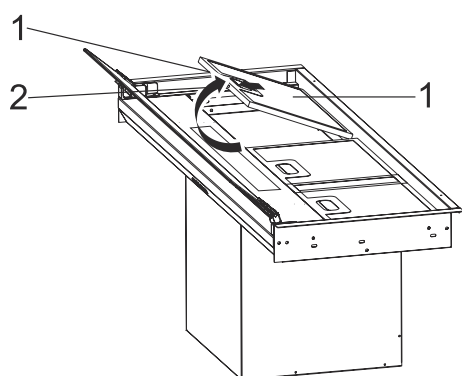

Fig. 11
- ➔ Remove the appliance package and place the aluminium filters facing upwards. (Fig. 11).
Press the aluminium filter latch (/1) and pull upwards (Fig. 11/2) to remove.